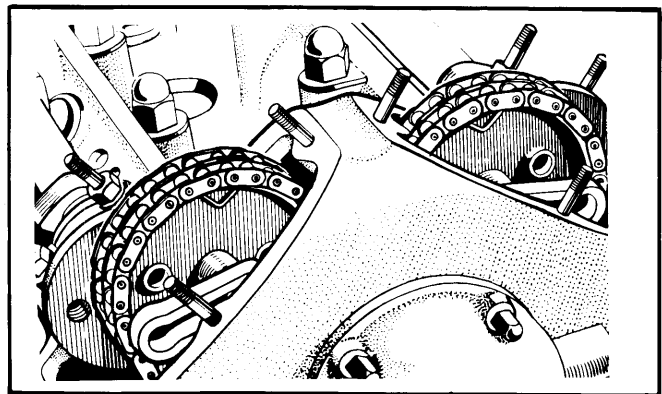

Fig. 14 View Showing Camshaft Sprockets in Disconnected Position
3) Accurately position camshafts with valve timing gauge (Fig. 14), and check that TDC marks are in exact alignment. Withdraw circlips from camshaft sprocket assembly and press adjusting plates forward until serrations disengage (Fig. 14).